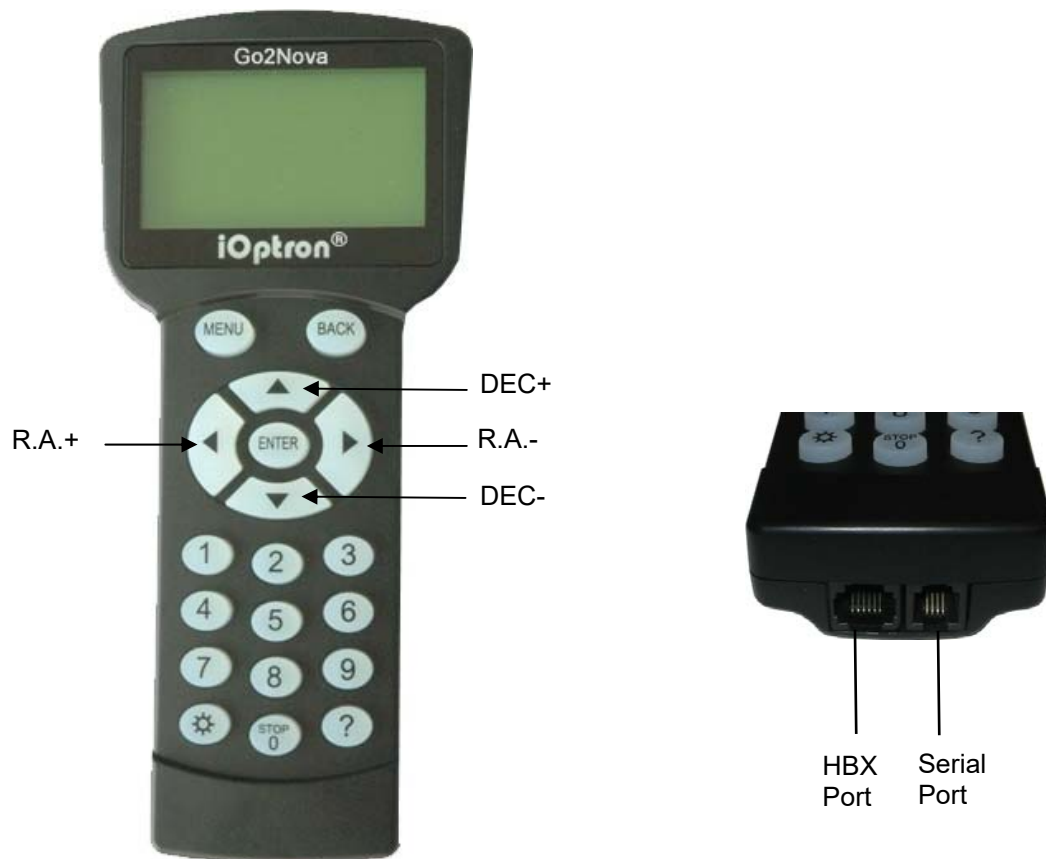

Figure 8. Go2Nova[®] 8407+ hand controller
The Go2Nova[®] 8407+ hand controller (HC) shown in Figure 8 is the standard controller used on the CEM120 mount. It has an integrated heater that ensures the LCD display will work at the temperature as low as -20°C(-4°F). It has a large LCD screen, function, direction, and number keys on the front; a red LED reading light on the back; and a HBX (6-pin) and a serial port (4-pin) at the bottom.